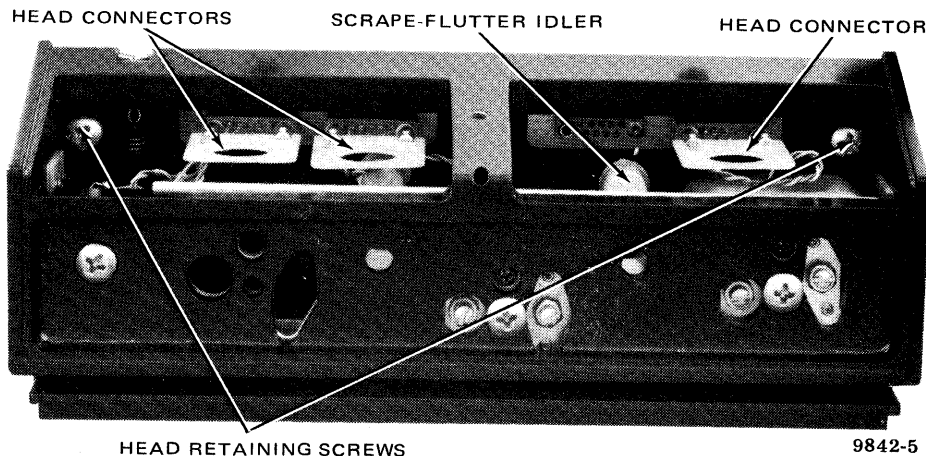

Figure 2-7. Head Assembly (Top View)
2. Disconnect all head connectors carefully (Figure 2-7).